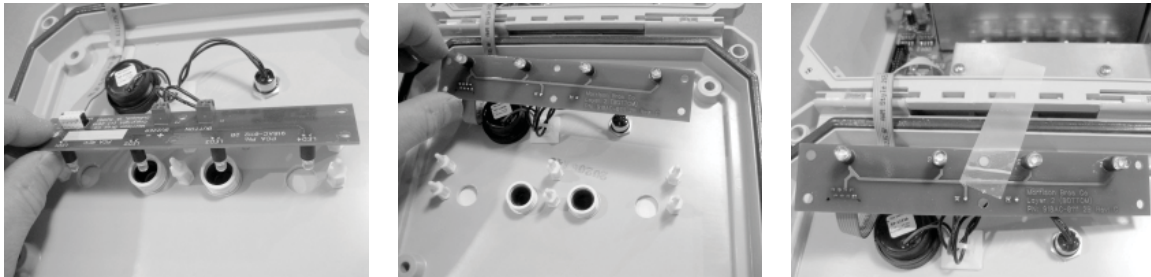

Figure 25 - Moving the Indicator Board out of the way
h. Now lift the board completely off of the supports and roll it back over out of the way. You may choose to use a piece of tape to hold it back and out of the way. See Figure 25.